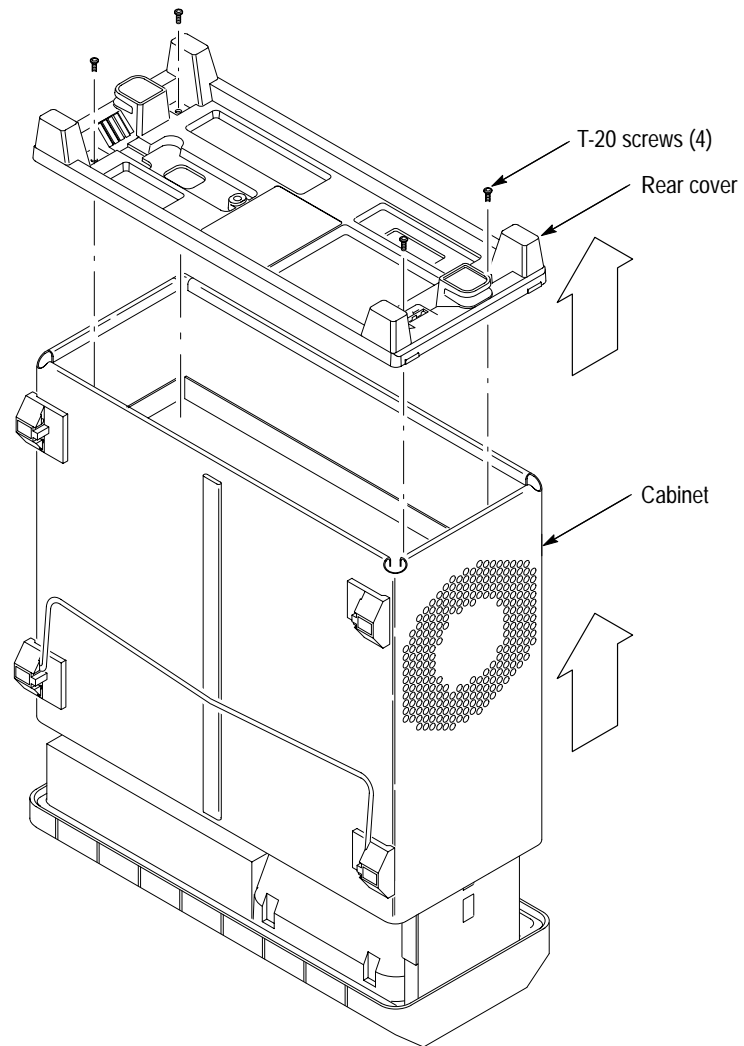

Figure 1: Rear cover and cabinet removal
1. Install the front cover. Set the oscilloscope face down with the front cover on the work surface and the bottom facing up (see Figure 1).